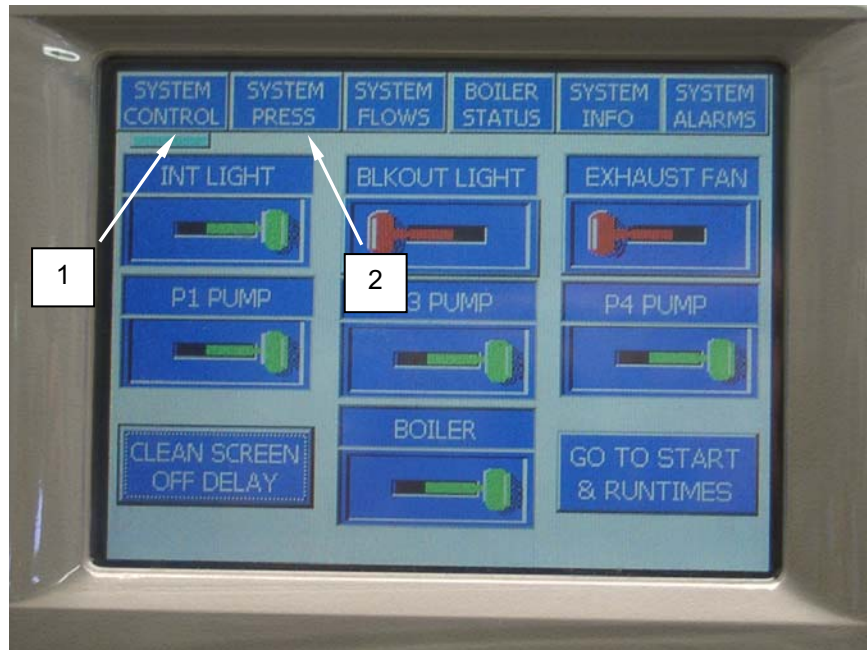

Figure 13. Selecting the System Press Display.
1. When the PLC is powered up, the System Control display (**Figure 13, Item 1**) is presented. If a system press function is desired, touch the system press tab (**Figure 13, Item 2**) to access the screen. An indicator bar or highlight will indicate that the system press screen is presented.